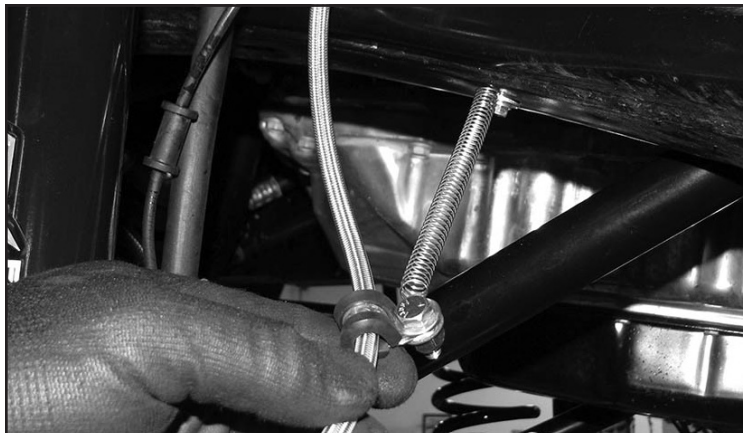

FIGURE 31 - STEP 30
30. Mount the opposite end of the spring to the frame using the supplied TEK screw and washer. **SEE FIGURE 31**